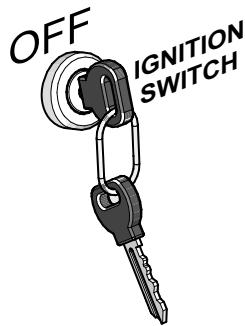

Figure 21. Ignition Switch (OFF)
1. Place the ignition switch key (Figure 21) on the **OFF** position.